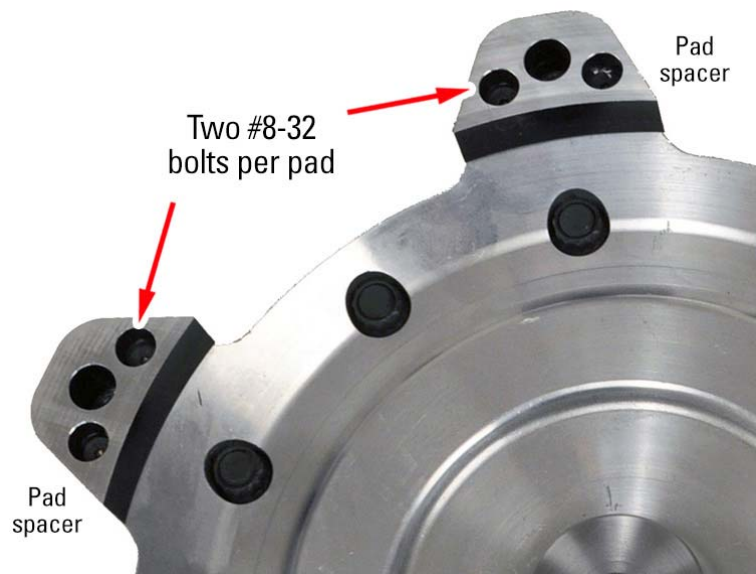

Figure 4: Torque Converter and pad spacers
Step 5: If the spacers are already installed, un-install the six (6) .750" thick converter pad spacers on the Torque Converter (#14) using twelve (12) #8-32 bolts. See Figure 4 below for reference.